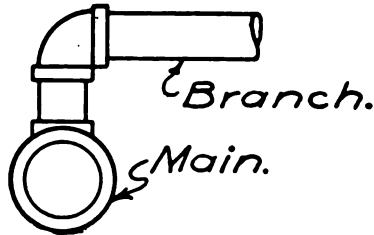

Fig. 28.—A 90 Degree Connection.
A. The tee on the main which supplies the branch is set with the side opening looking directly upward and a nipple and 90 degree elbow are used to connect the branch. Fig. 28.